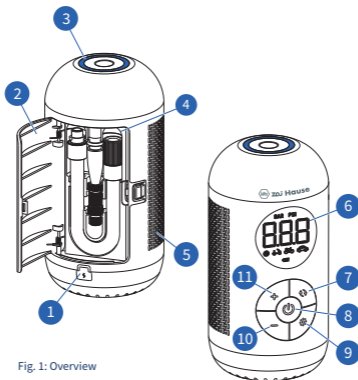
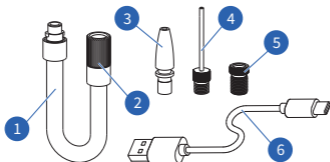

Fig. 1: Overview
Fig. 2: Accessories
Schrader valve (Fig. 2/**2**): The air pump can be directly connected to a schrader valve, e.g., for tires of cars, motorcycles, e-bikes or most mountain bikes.
Plastic nozzle adapter (Fig. 2/**3**): The plastic nozzle adapter is used, e.g., for various toys, air beds or rubber rings.
Needle valve adapter (Fig. 2/**4**): The needle valve adapter is used, e.g., for balls such as basketballs or footballs.
Presta valve adapter (Fig. 2/**5**): The presta valve adapter is used, e.g., for tires of bicycles or certain mountain bikes.
1. Insert the charging cord (Fig. 2/6) into the charging socket (Fig. 1/1) and ensure that it is fully connected (Fig. 3).
The battery level indicator on the display (Fig. 1/6) has different colours to indicate the air pump's remaining battery level.
1. Open the backside lid (Fig. 1/ 2).
2. Take the air hose and the air valve adapter out of the case (Fig. 1/ 4).
- › On the top of the tool, there is a ring LED light (Fig. 1/ 3), which can be switched on/off.